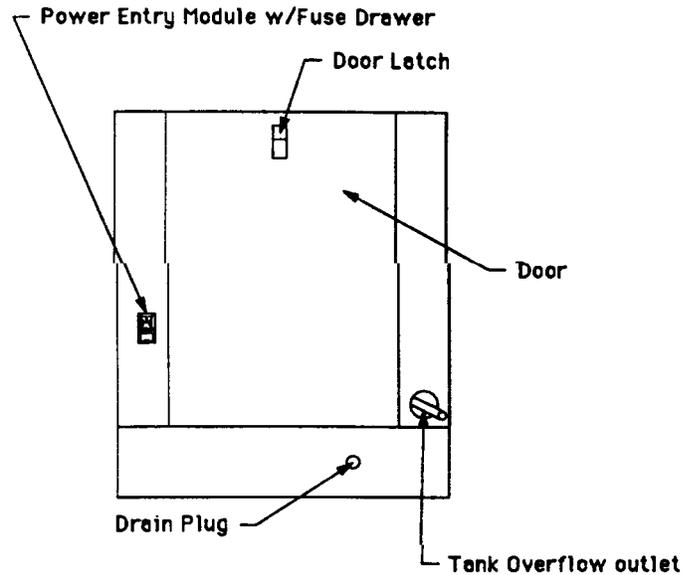
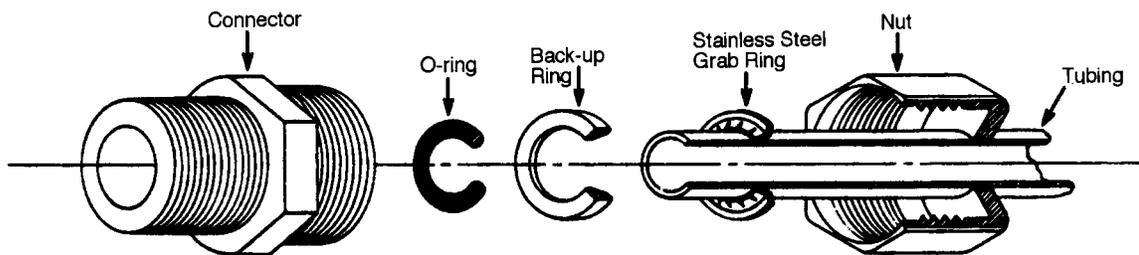

Figure 2 EASYpure UF Back
Figure 3 Typical Polypropylene Tubing Installation
1. Completely disassemble the fitting. Refer to Figure 3 to familiarize yourself with the names of the component parts.
3. Place the grab ring and back-up ring in the hex nut in the order and orientation shown in Figure 3. Thread the nut onto the adapter. **DO NOT** use the o-ring at this time.
1. Locate the reject water tubing. This is the piece of $\frac{1}{4}$ " O.D. tubing that has an adapter on one end and no connector on the other end. Remove the nut, grab ring, backup ring and o-ring from the reject water fitting located at the lower right of the unit. (See Figure 3 for part identification and Figure 2 for fitting location.)